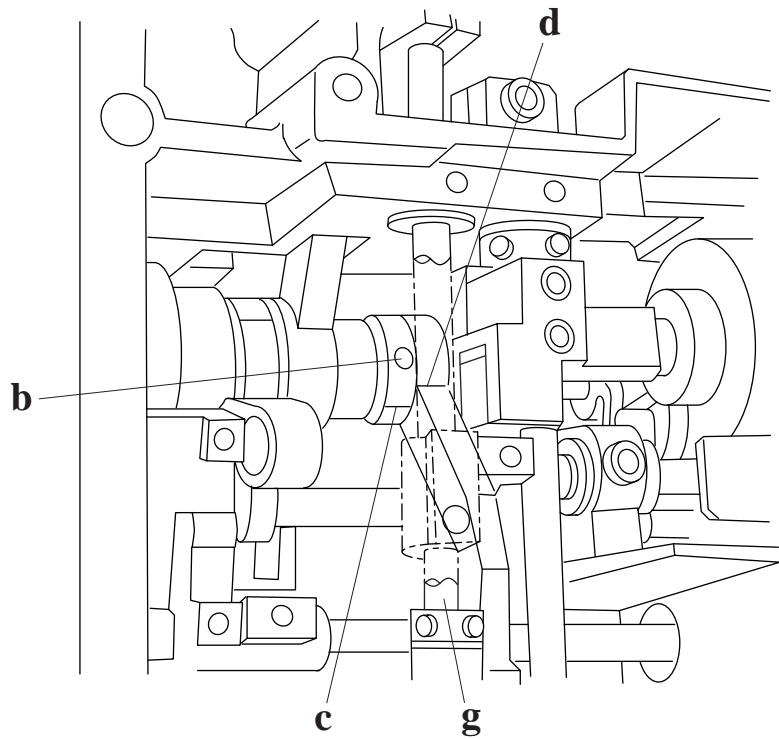

Fig.7
2. Make sure that there is no axial play on chain looper shaft "a". If necessary, adjust with stop collar inside shaft "g" in Fig.7 on page 12c.
If necessary, loosen screws "b" of eccentric, align eccentric mark "c" with mark "d" and tighten both screws "b". Recheck the adjustment.(Fig.7)